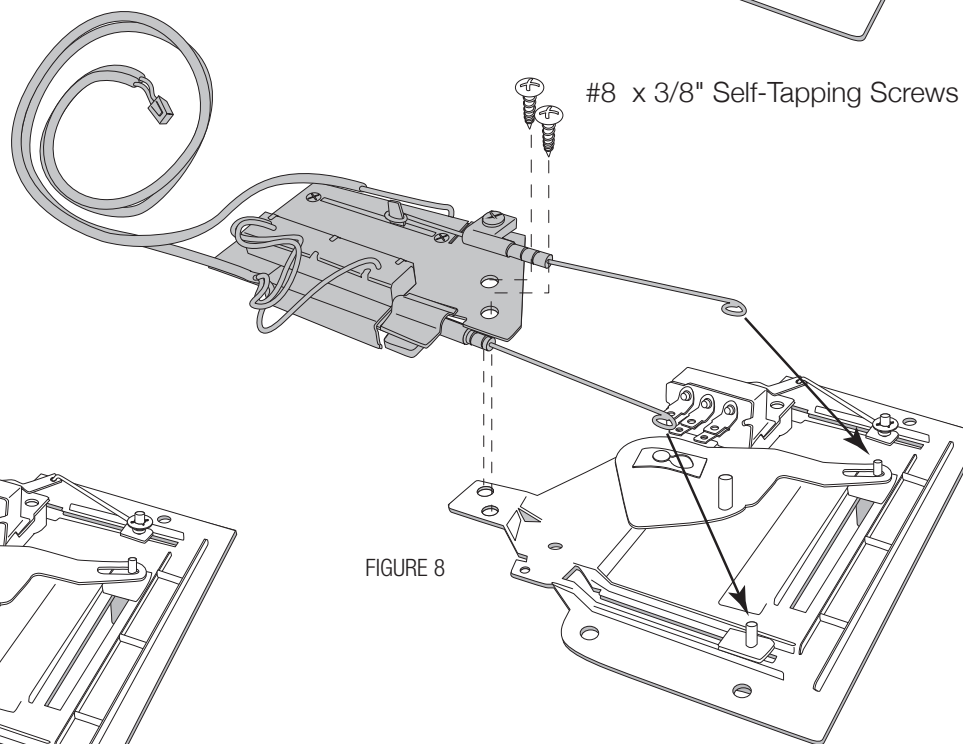

FIGURE 8
2) Attach the EZ Integrator assembly to the control head (see figure 8). Place the looped ends of the wires over the posts on the appropriate levers.